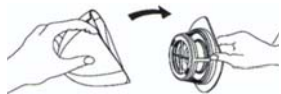

Fig. 3
2. Pull out the HEPA Dust Cup Filter or cloth dust cup filter (Fig. 3)